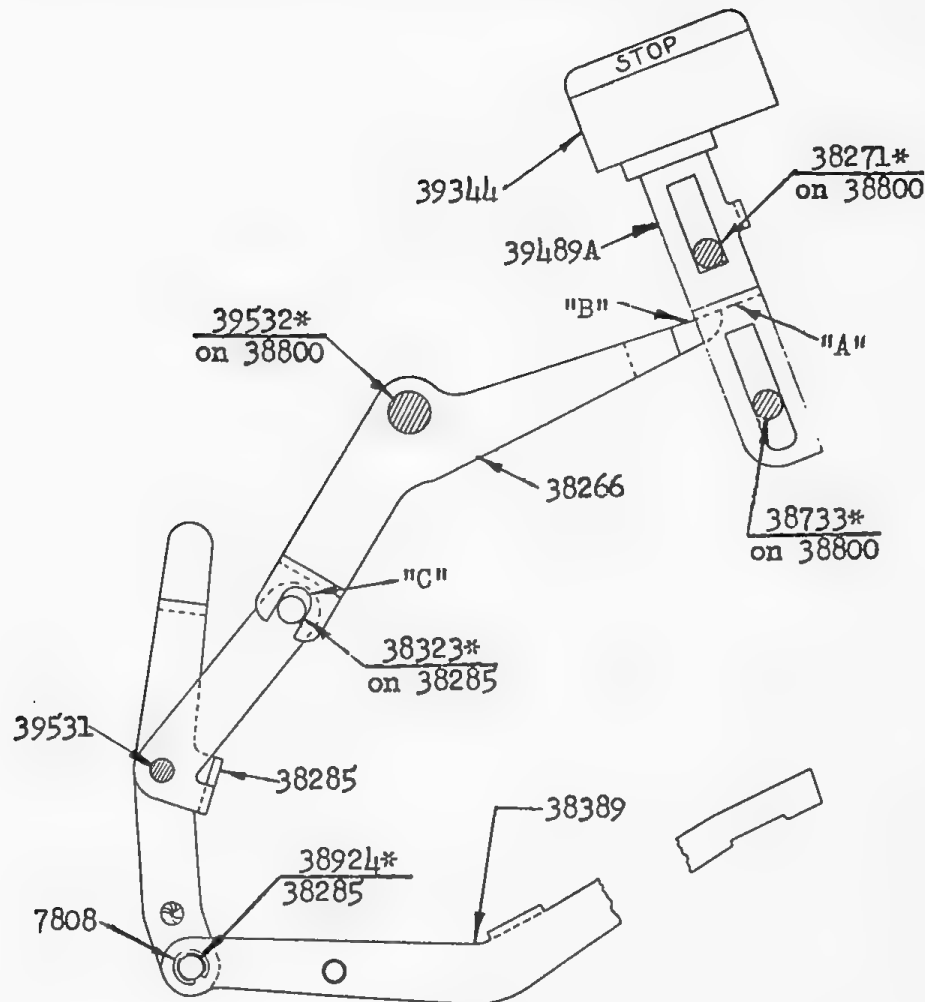

FIG. 66
1. (Fig. 66). Upon depression of Stop Key- 39489A, its shelf "A" contacts "B" on the Stop Connecting Lever-38266 and rocks it clockwise. Notch "C" on 38266 embraces Stud-38323* on the Stop Transfer Bail-38285, which in turn moves the Division Stop Link-38389 rearward and from there on operation is the same as in previous models.